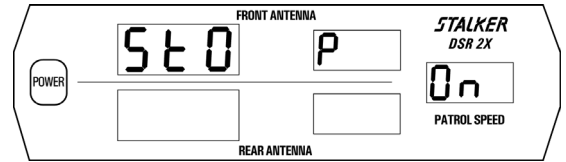
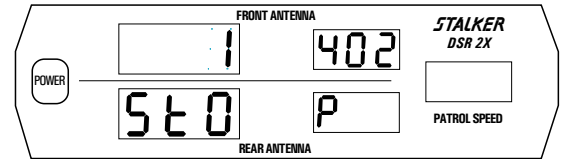

Fig. 31
Fig. 32
1. Enter Stopwatch Mode using the ergonomic remote control by pressing the **MENU** key six times. Use the **↑** and **↓** keys to set **5t0 P** to **0n**. Fig. 31 shows the Stopwatch Mode in its ON setting. Press any of the four **ZONE** keys to exit Setup Mode and enter Stopwatch Mode (shown in Fig 32). The **402** meter display will normally be a different number – depending upon its previous setting.